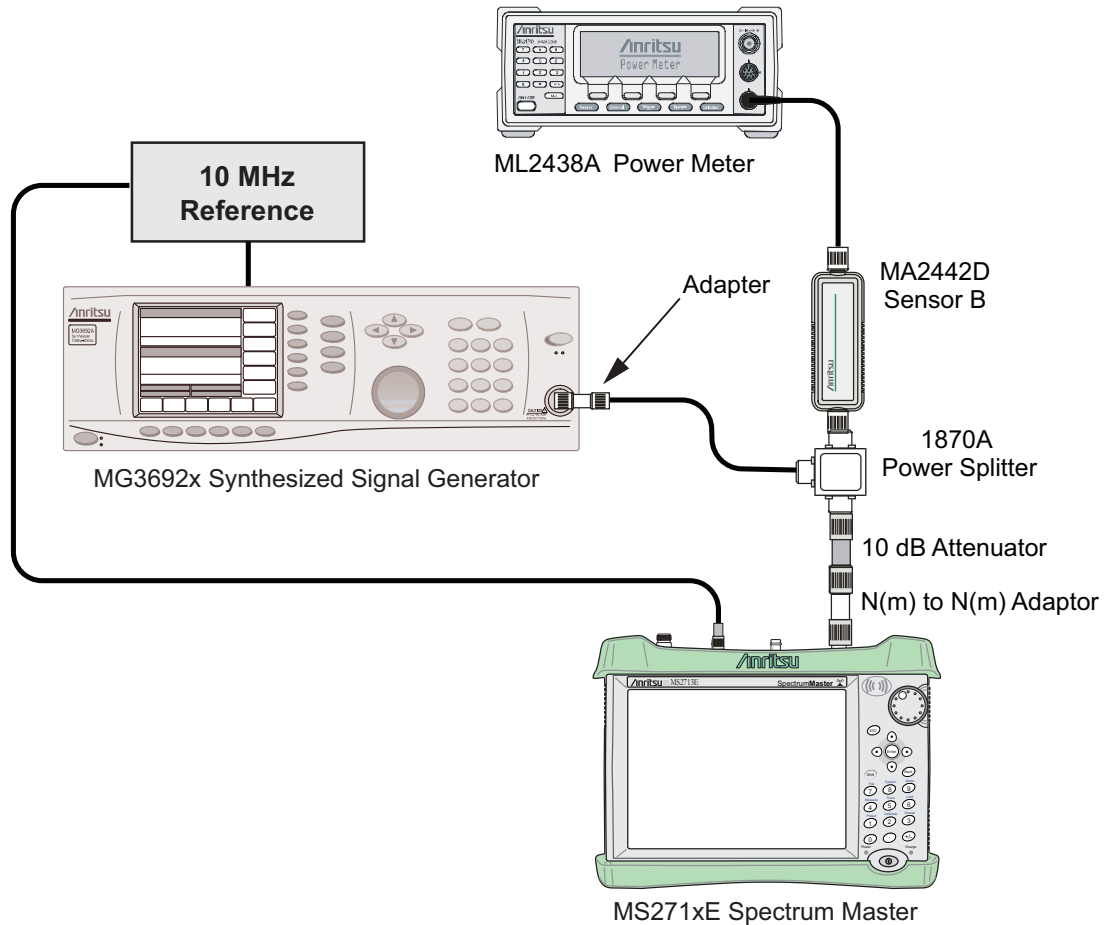

Figure 3-2. Power Meter Measurement Accuracy
1. Connect the equipment as shown in Figure 3-2.